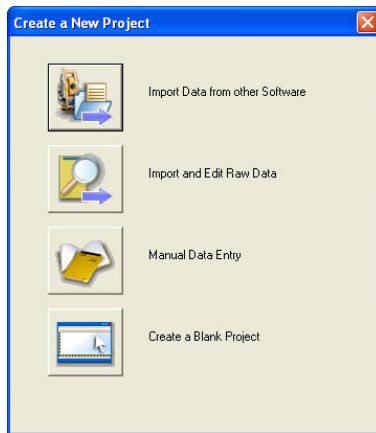

Figure 5-6. Create a Blank Project
3. On the *Create a New Project* dialog box (Figure 5-6), choose to create a new project by importing or entering data, or create a project with no data.